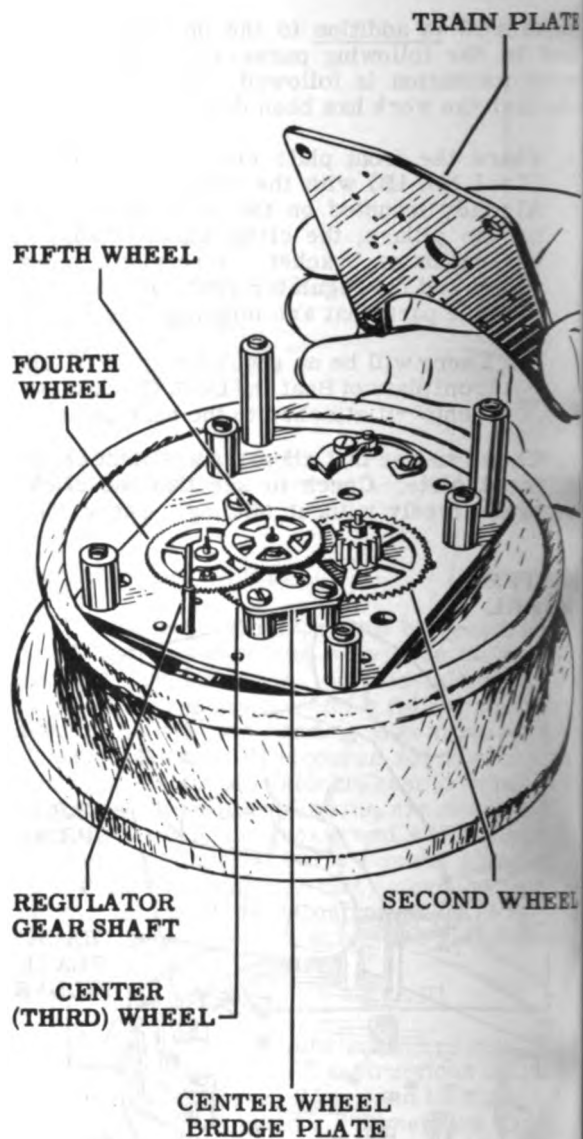

Figure 89—Mechanical Clock Movement
- 4. Place the second, fourth and fifth wheels in position. See Figs. 89 and 90.
- 5. Put on the train plate as shown in Fig. 89 and fasten it down with two train plate screws and the two back plate pillars. Use only the special pillar pliers (Tool No. 6A) to tighten the back plate pillars. Use the special collar (Tool No. 13A) on the end of an automatic screwdriver for putting in the screws.
- A. Replacing the train plate for Boat and Deck Clock movements is shown in Fig. 89.